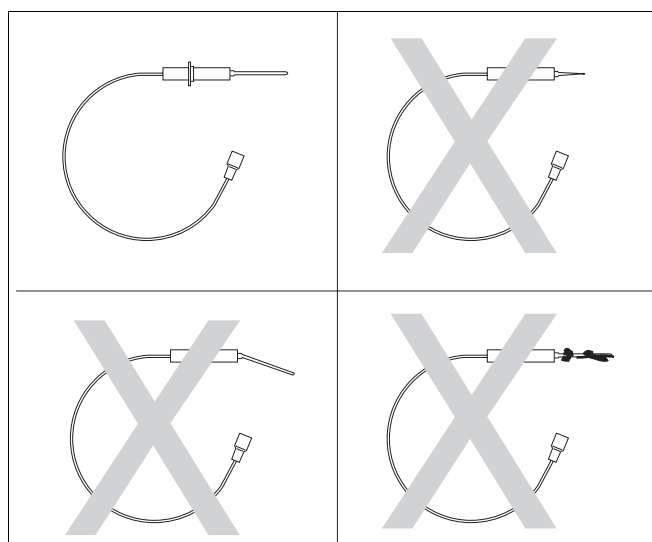

fig. 93 Check ionisation electrode
- Check if the ionisation electrode has been damaged, soiled or is shows signs of wear (see fig. 93).